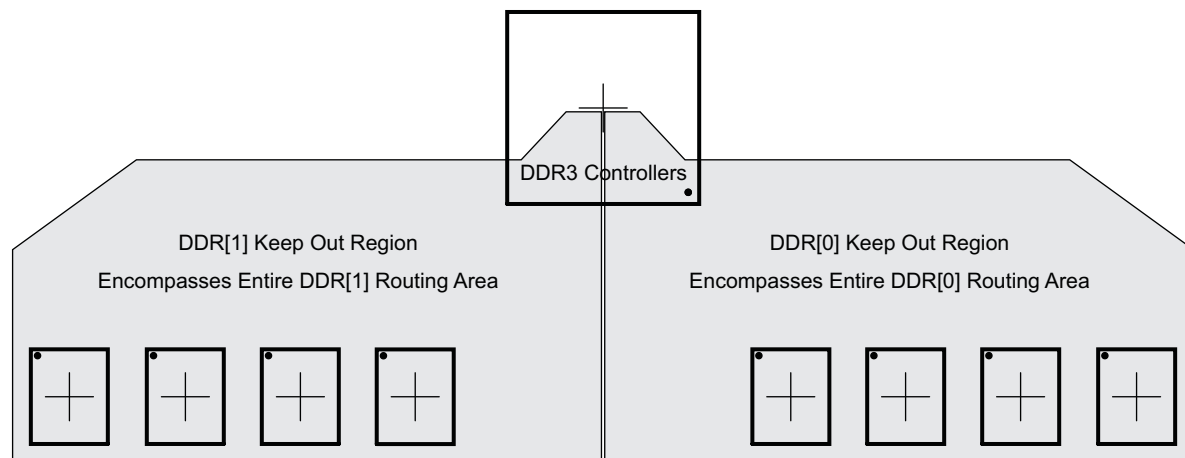

Figure 8-16. DDR3 Keepout Region
- (2) Measurements from center of processor to center of DDR3 device.
- (3) Minimizing X1 and Y improves timing margins.
- (4) w is defined as the signal trace width.
- (5) Non-DDR3 signals allowed within DDR3 keepout region provided they are separated from DDR3 routing layers by a ground plane.
- (6) Note that DDR3 signals from one DDR3 controller are considered *non-DDR3* to the other controller. In other words, keep the two DDR3 interfaces separated by this specification.
The region of the PCB used for DDR3 circuitry must be isolated from other signals. The DDR3 keepout region is defined for this purpose and is shown in Figure 8-16. The size of this region varies with the placement and DDR routing. Additional clearances required for the keepout region are shown in Table 8-19. Non-DDR3 signals should not be routed on the DDR signal layers within the DDR3 keepout region. Non-DDR3 signals may be routed in the region, provided they are routed on layers separated from the DDR signal layers by a ground layer. No breaks should be allowed in the reference ground layers in this region. In addition, the 1.5-V DDR3 power plane should cover the entire keepout region. Also note that the two DDR3 controller's signals should be separated from each other by the specification in Table 8-19, item 5.